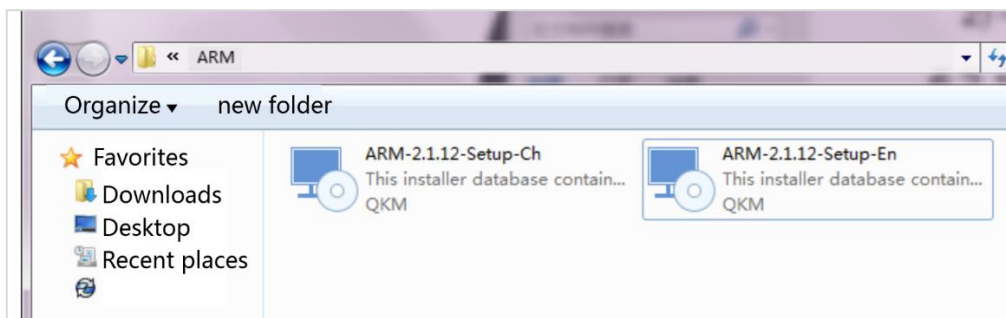

Figure 6-1 Installation package
Step 1 Download an ARM installation package at the official website of QKM, as shown in Figure 6-1.